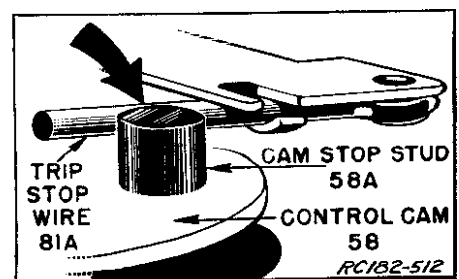

Figure 11 - Positioning Trip Stop Wire.
1. Make certain that the On-Off Reject knob (1) is tight and down as far as it will go on the push-off shaft (8).
2. Check to be sure that the reject spring (2) is pulling the push-off shaft (8) up as far as it will go. The reject spring (2) should rest on washer (3) and should not slip between it and the push-off shaft (8).
3. Bend the end of the reject link (84) enough so that when it is resting on the end of the push-off shaft (8) it causes the top of the trip stop wire (81A) to be level with the top of the main cam stop stud (58A). See Figure 11.
4. Adjust the trip adjusting screw (85) until the point of the pawl (87A) is even with the smooth side of the trip serrations (83) as outlined in paragraph 8 of the RC180 & RC181 service manual.
2. Adjust the reject link adjusting screw (84C) until there is approximately 1/32 of an inch space between the round end of the reject arm (84B) and the pivot on the push-off arm and link assembly (62). If there is no space between these two parts, it will be possible for the changer to begin its change cycle when the On-Off Reject knob is turned to the "OFF" position.
3. Adjust the trip adjusting screw (85) until the point of the pawl (87A) is even with the smooth side of the trip serrations (83) as outlined in paragraph 8 of the RC180 & RC181 service manual.
4. If the top of the trip stop wire (81A) is not level with the top of the main cam stop stud (58A) as shown in Figure 11, bend the wire enough to make it even with the top of the stud.